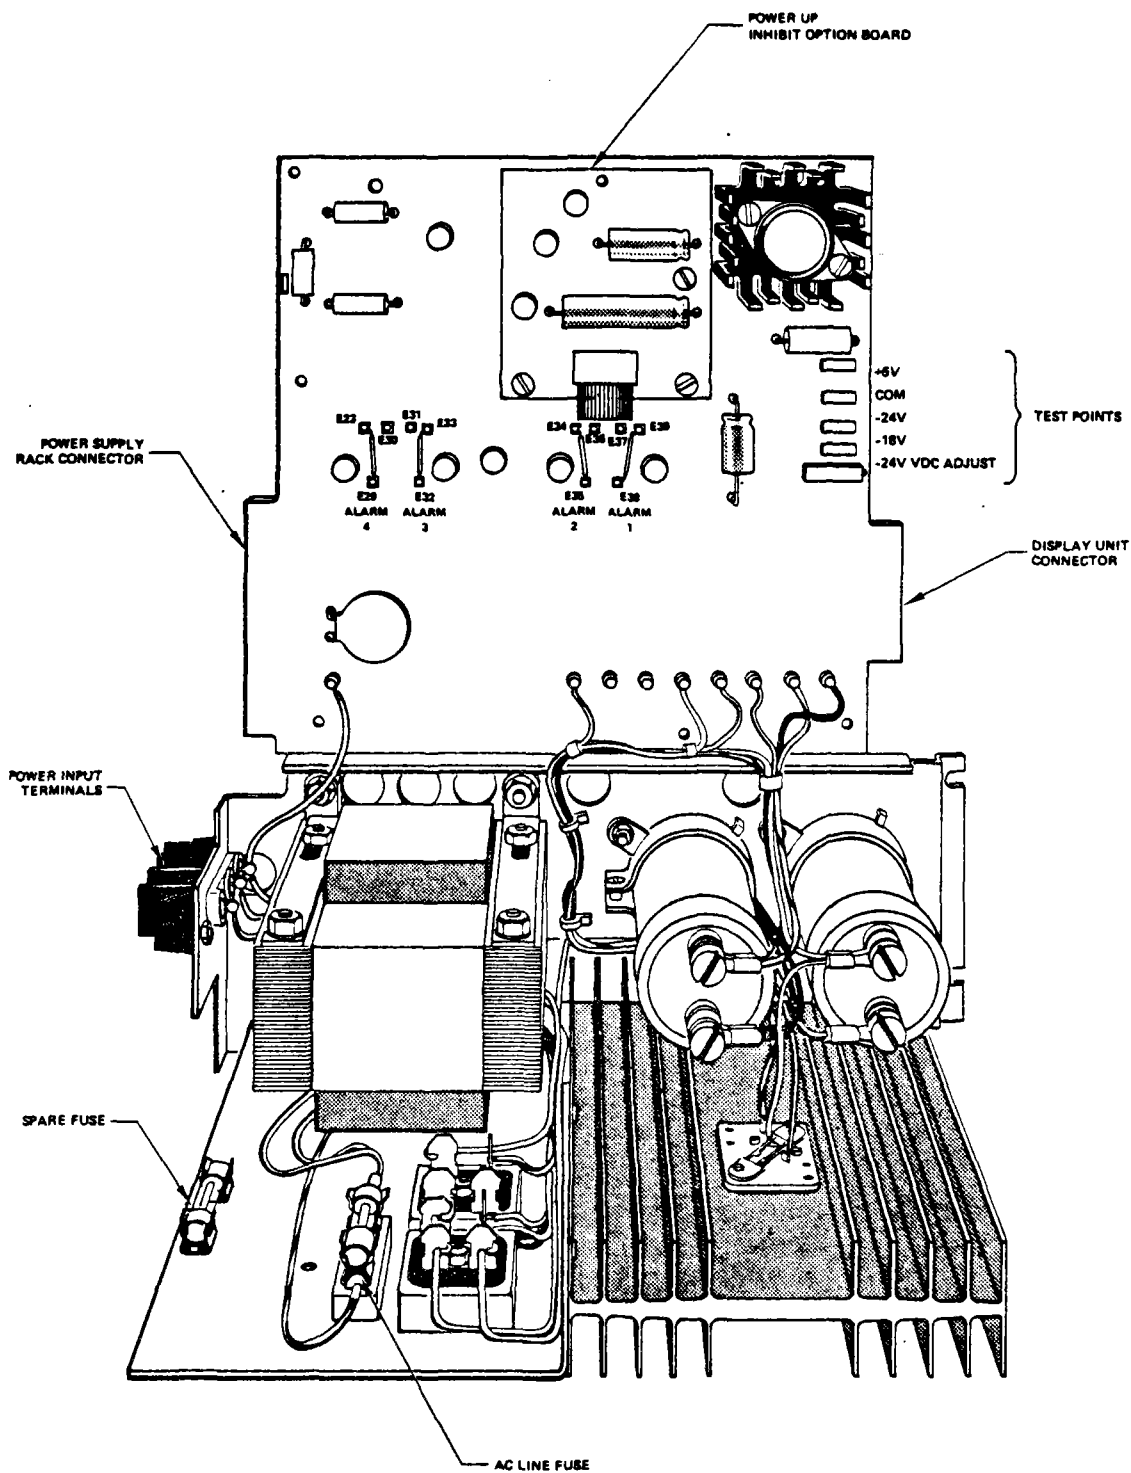

Figure 2-1. Power Supply Internal Features
2-4 The power supply contains internal ac line fuses plus spares. A 1.5 ampere slow blow fuse is used with the 95-125 Vac power input option, and two 0.75 ampere fuses are used with the 190-250 Vac option. If fuse replacement is required, remove the power supply from the rack using the procedure given in the Rack Assembly Operation and Maintenance Manual 8025700 or 8029270 (as applicable). See Figure 2-1 of this manual for fuse locations.
2-7 If a change must be made in the alarm relay options for the system without individual relays, refer to Rack Assembly Operation and Maintenance Manual 8025700 for the power supply and display unit removal procedure. Remove the power supply, then remove the screws from the master printed wiring board and place it in a horizontal position. This operation will expose the four alarm jumpers as illustrated in Figure 2-1. To change a relay option to a normally de-energized or normally energized configuration, unsolder the upper end of the corresponding jumper, and connect it to the adjacent terminal. Jumper locations are specified in Table 2-2. After completing the change, mark the revised catalog number on the printed wiring board and chassis label for future reference.
2-9 Successful completion of the following tests and calibration procedures will verify normal power supply operation. The tests should be performed in the order given. Unless otherwise specified, test point locations and adjustments are shown on Figure 2-1. For power supply and display unit removal procedures and individual relay (alarm and OK) test procedures, refer to the Rack Assembly Operation and Maintenance Manual.
- c. If no system monitor will generate an alarm and the voltage measured in Step b is above the minimum value, replace the power-up-inhibit circuit board. See Figure 2-1 for board location.